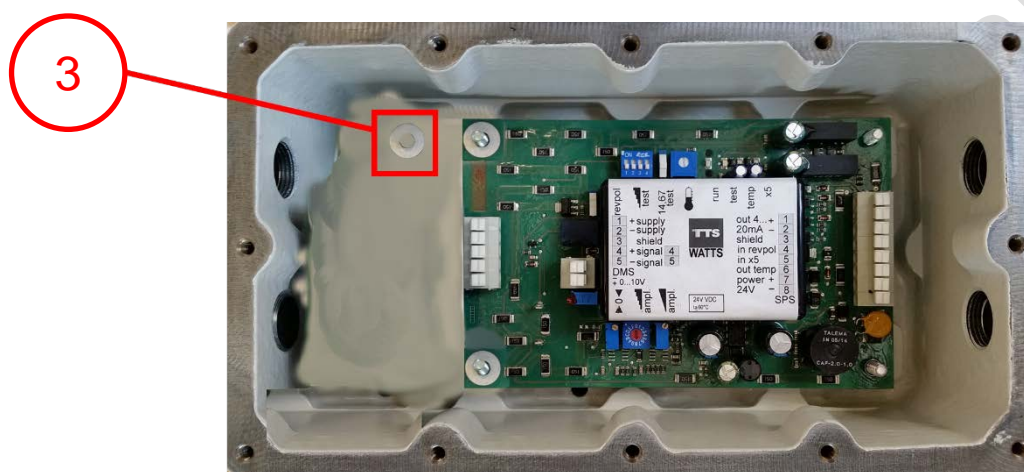

Figure 4
- Screw the rubber buffer into the threaded hole (see detail 3 in figure 4)